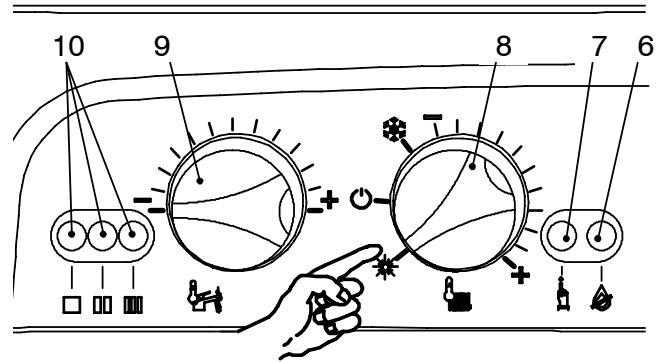
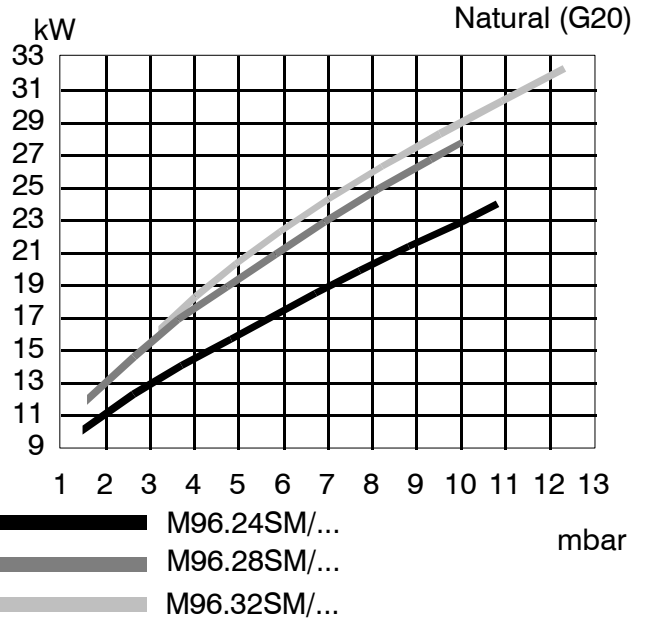
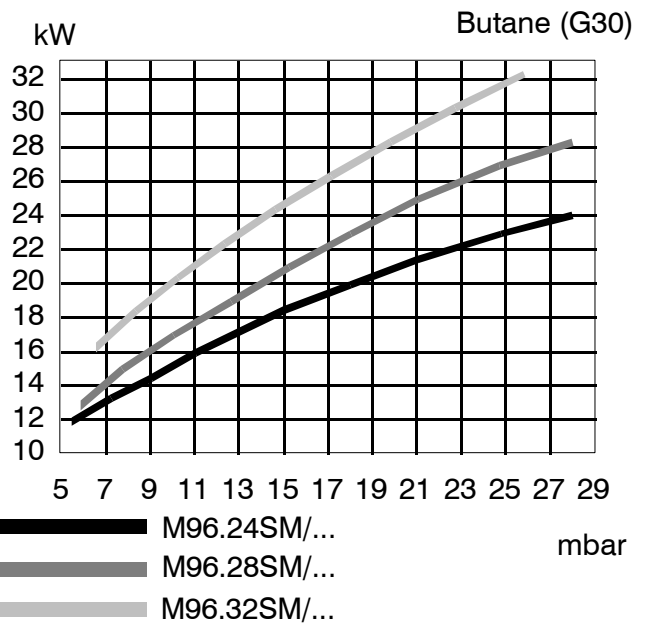
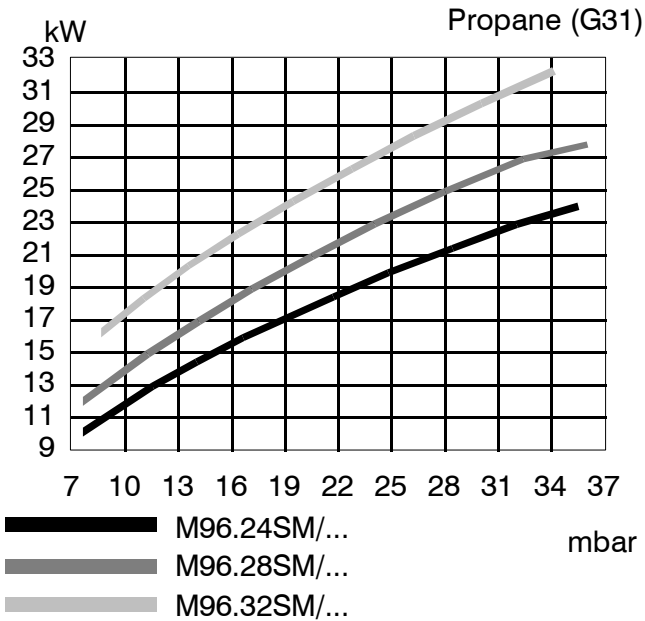

Fig. 7.6
Fig. 7.11
Fig. 7.12
Fig. 7.13
Refer to Fig. 7.11, Fig. 7.12 and Fig. 7.13 (depending on the gas used) and determine the correct burner pressure appertaining to the output required for the central heating requirement.
- 3 Rotate the knob 9 as in Fig. 7.6.
- 4 Turn the boiler ON positioning the function selector 8 as indicated in Fig. 7.6 and ensure that the timer selector switch and room thermostat, if fitted, are set to "heat demand". Run the boiler in c.h. mode (do not open any d.h.w. tap).
- 8 Rotate the knob 9 in Fig. 7.6 to obtain the pressure to the burner to meet with the central heating system requirements. Refer to the diagrams shown in Fig. 7.11, Fig. 7.12 or Fig. 7.13 By rotating clockwise the pressure increases.